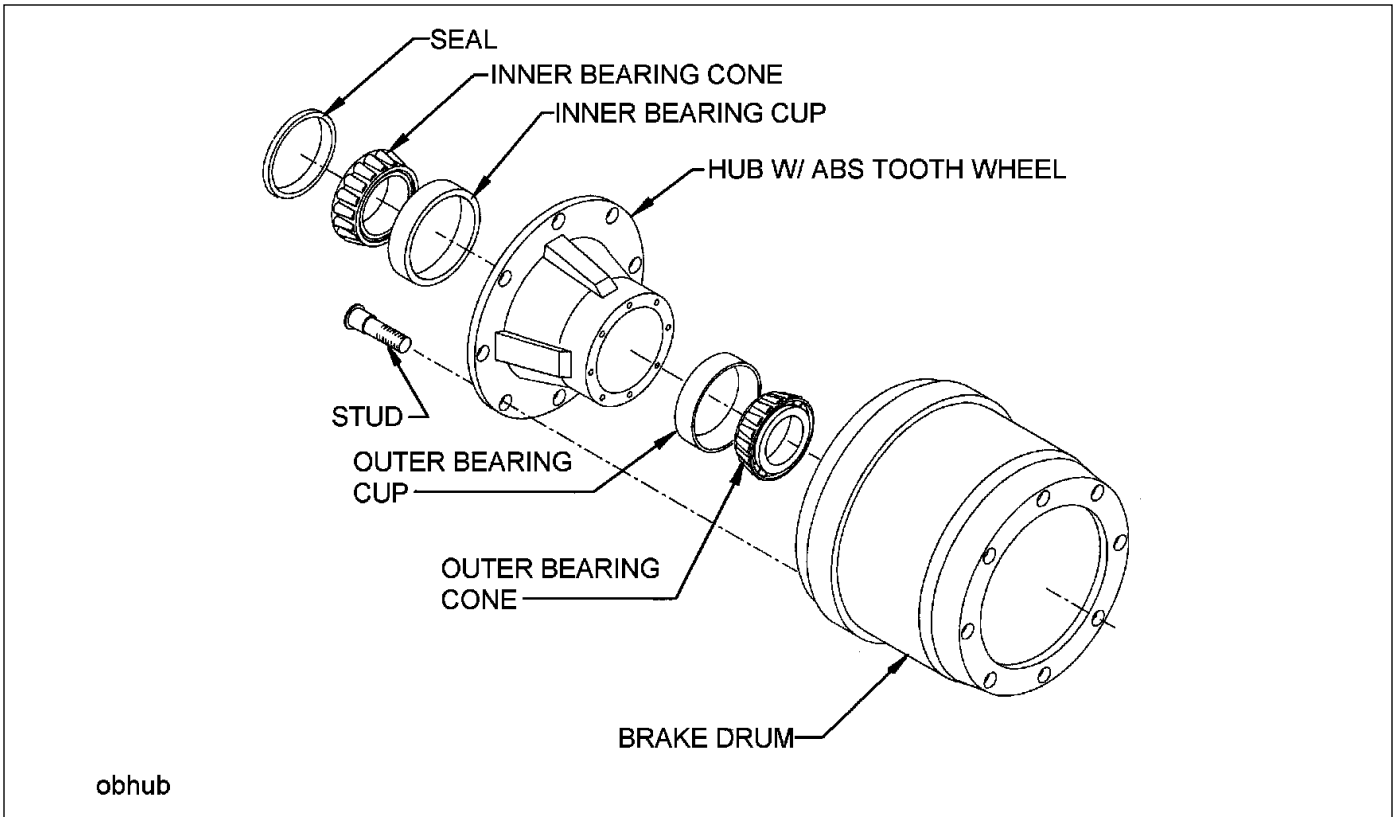

Figure 4-15: Outboard Mount Hub and Drum
4. Replace the hub and drum as follows (**See Figure 4-15**):
- a. Remove the brake drum (**See Figure 4-15.**) It may be necessary to release the slack adjuster.
- i. Place the drum over the hub and brake shoes being careful not to damage the threads on the studs (**See Figure 4-15.**) Make sure the drum seats flat against the hub flange and mates properly with the hub pilot. There should be no interference between the brake drum pilot chamfer and the corner radius on the hub. If interference exists, the hub will not be able to function properly.